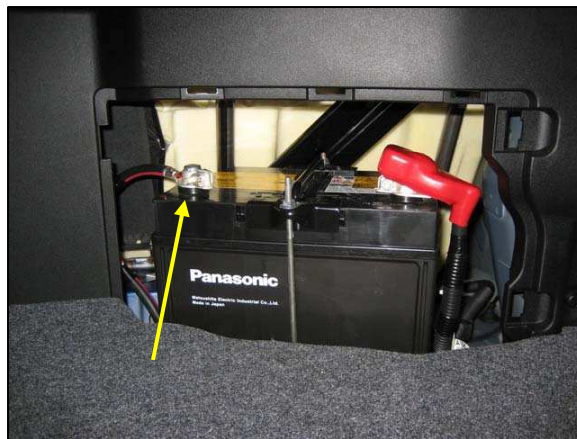

Fig. 1
1. Uncover the vehicle's battery, which is located in the trunk. Disconnect the ground cable and secure it away from the terminal (10mm wrench or socket). See *Fig. 1*.